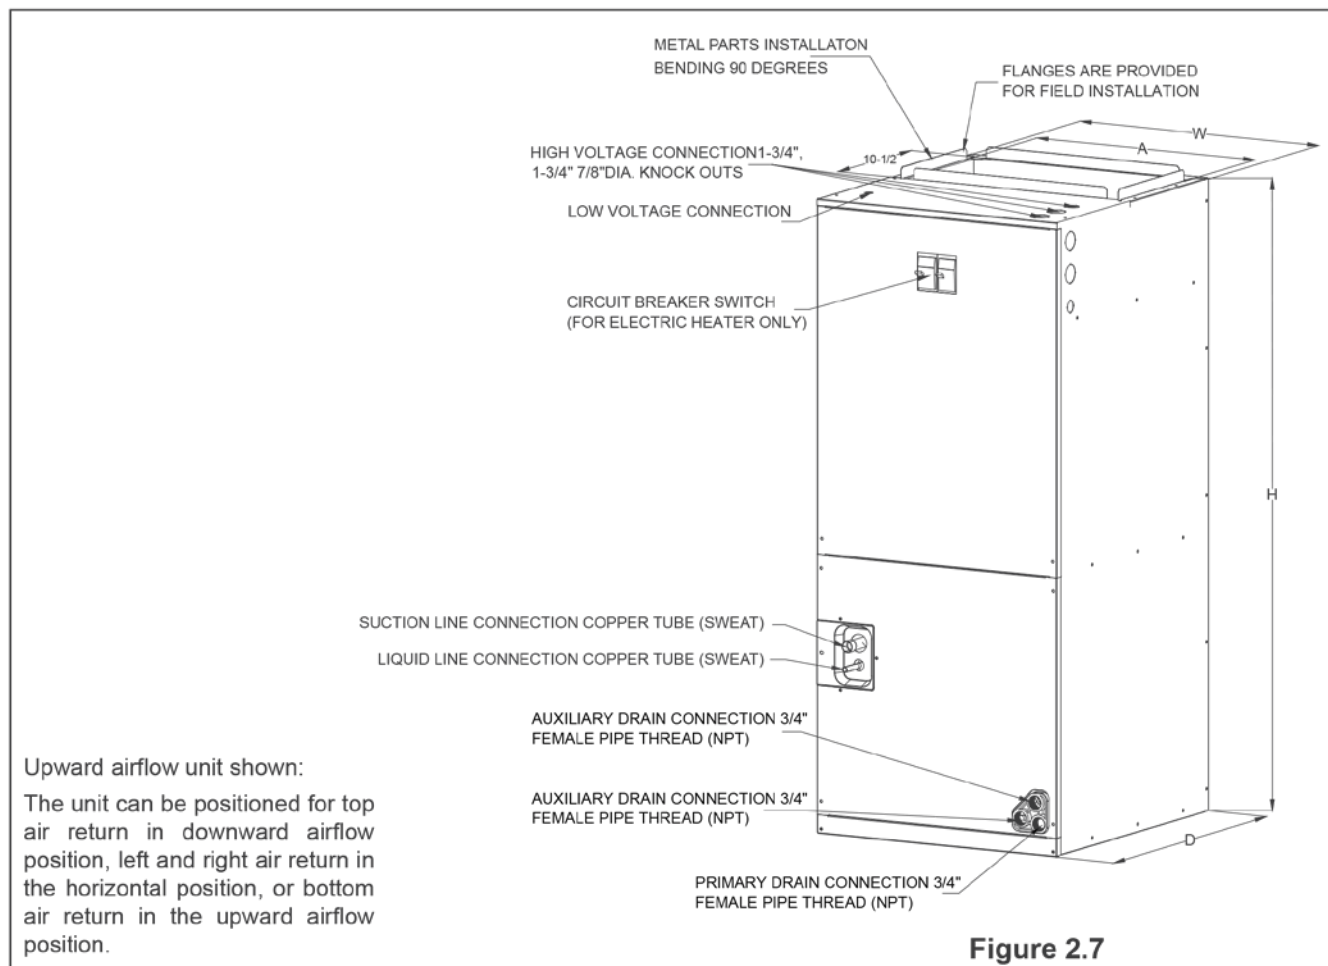

Figure 2.7
- All models are factory-configured for upflow operation. (see Figure 2.7).
- See Figure 2.7 for the connection position of low-voltage wires.